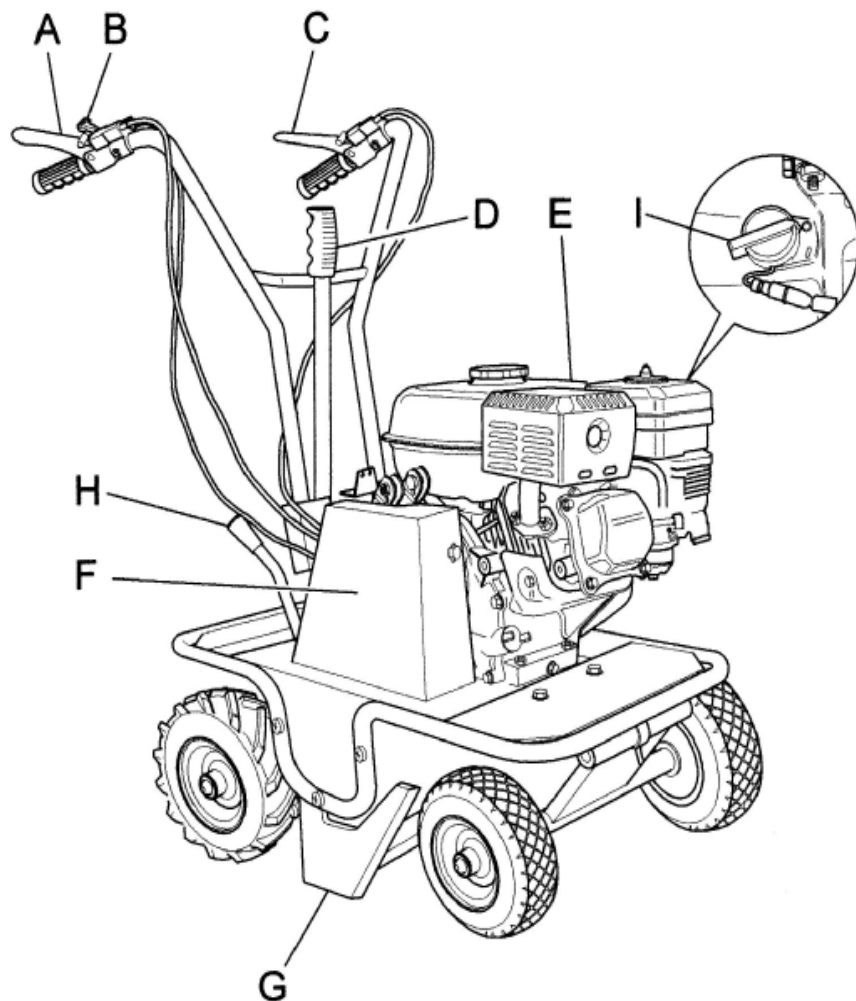
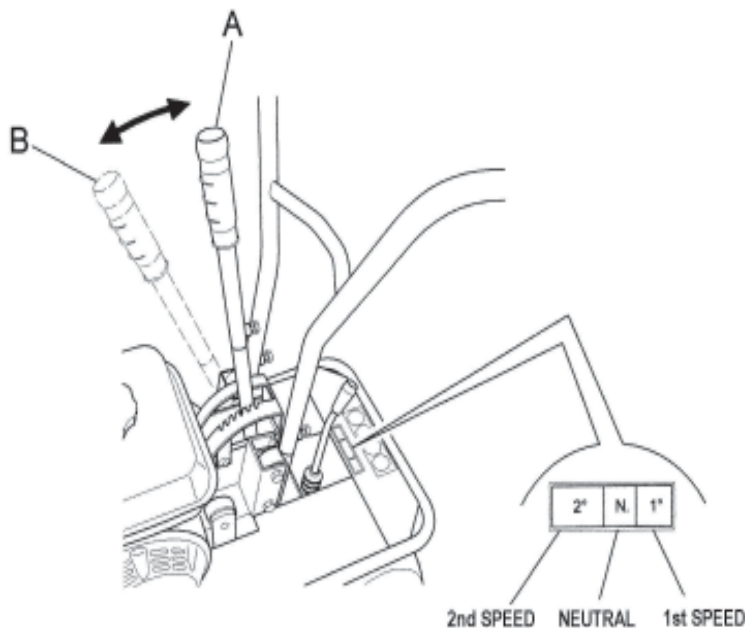

Figure 1
Figure 2
This lever serves to adjust the cutting height according to the type of terrain and the thickness of the turf to be cut. (Fig.2 Ref. A)
The cover (Fig. 1, ref. F) prevents any contact with the moving parts of the machine. Use of the machine without the said cover is strictly prohibited.
Select the required gear only after disengaging the forward clutch by releasing the relative lever (Fig. 1, ref. C).
- Before switching on the engine make sure that both engagement levers (forward clutch control lever - Fig. 1, ref. C and blade clutch control lever - Fig. 1, ref. A) are in the disengaged position (released) ; then place the gear lever in neutral (Fig. 2, ref. C)
- The cover (Fig. 1, ref. F) should not be moved for any reason whatsoever while the machine is in use.
- Before moving away from the machine, place the gear lever in neutral (Fig. 2, ref. C) and switch off the engine by moving the switch (Fig.1,ref.I) to the 0 position.